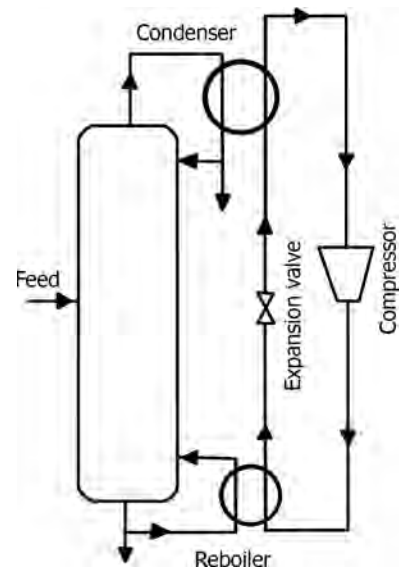

FIGURE 12.5 Distillation column with a separate refrigerant circuit.
- Figures 12.5 and 12.6 illustrate heat pump applications using (a) a refrigerant as the working fluid and (b) process fluid itself as the working fluid.